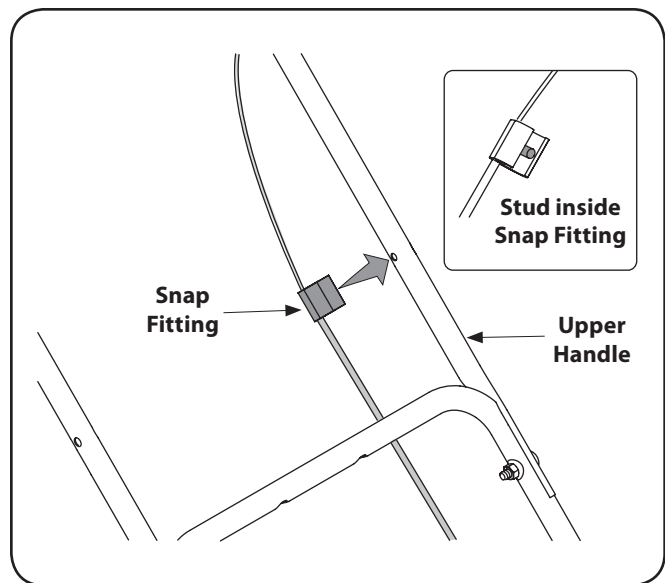
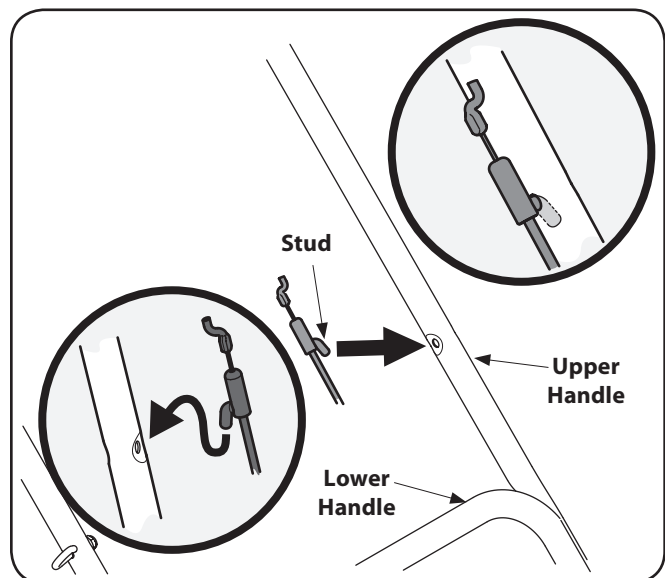

Figure 3-7
Figure 3-8
NOTE: Your mower has been supplied with one of two types of control cables - one that is secured with a snap fitting as shown in Fig. 3-7 or one that is secured with a stud as shown in Fig. 3-8. Make note of the cable supplied with your mower and follow the appropriate steps below.
1. Press the stud found inside the snap fitting into the hole found on the left side of the upper handle, as shown in Figure 3-7.
1. Press the stud found on the cable fitting into the hole found on the left side of the upper handle, as shown in the Fig. 3-8 insets.